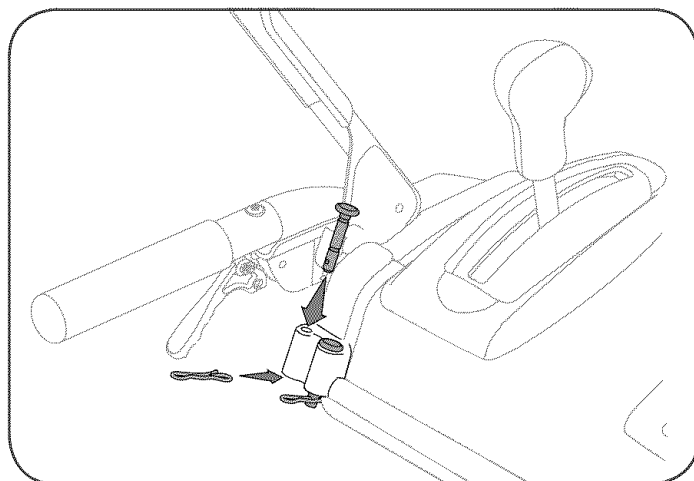

Figure 8
- a. Two Spare Shear Pins (with Cotter Pins). May be stowed in plastic dash panel. See Figure 8.
Holes are located in the plastic dash panel for convenient shear pin storage. See Figure 8.